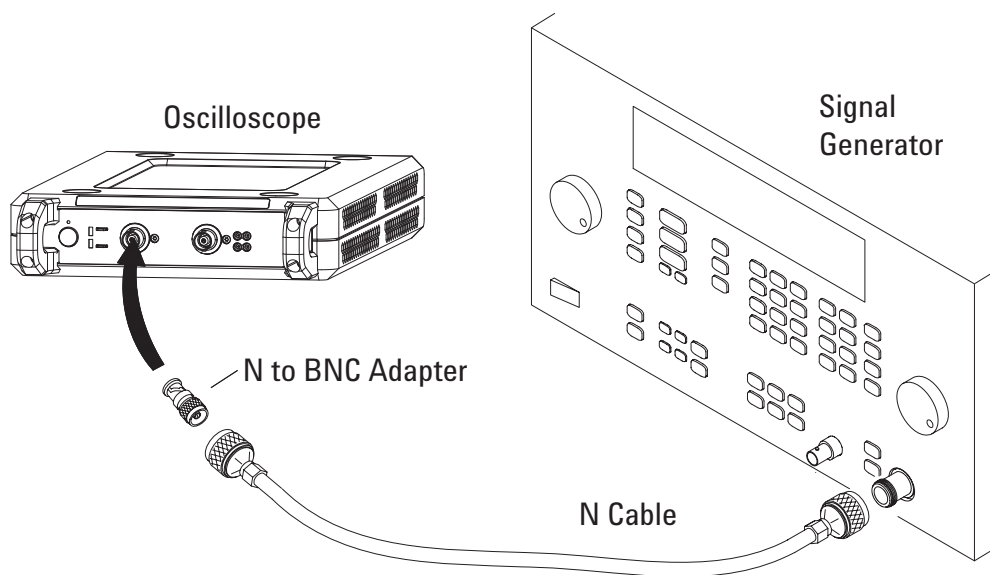

Figure 6 Setting Up Equipment for Internal Trigger Sensitivity Test
- 4 Connect the equipment (see **Figure 6**).